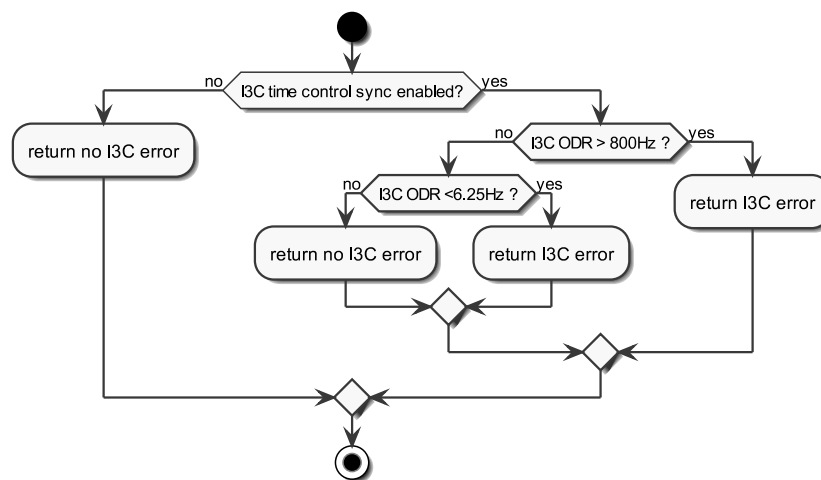

Figure 28 : Conditions for I3C Sample Rate (ODR) Configuration Errors
**ODR Configuration Error** The synchronous mode feature will operate in the correct manner only when the user follows the constraints on the supported sample rates. The device checks continuously for matching values of sample rates. If the value for one of the signals acceleration, angular rate or temperature is not within the limits, the i3c\_error bit is set. The conditions for return an I3C error for an invalid sample rate (ODR) is detailed in Figure 28.